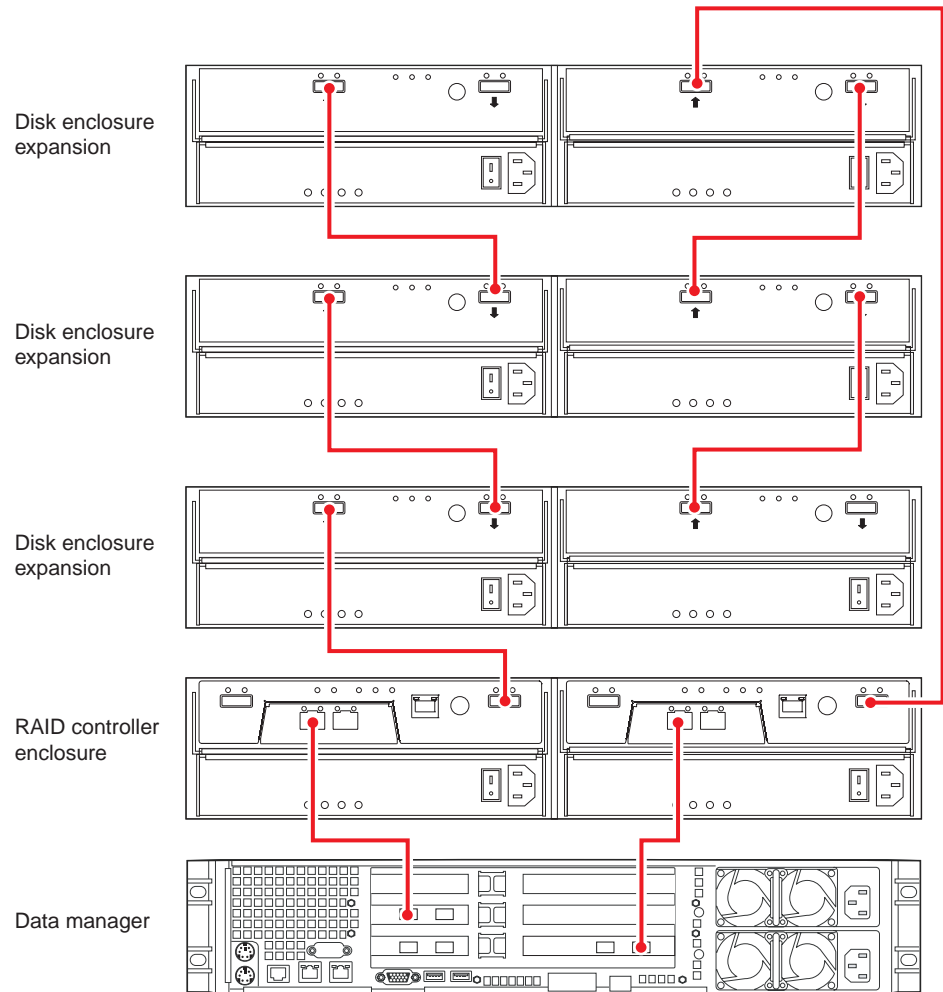

Figure 1-16 Data Manager, Dual-Controller RAID Enclosure and Three Disk Expansion Units
Use the following steps and Figure 1-16 to cable a data manager to a dual-controller RAID enclosure and three disk expansion enclosures.
1. Connect the Data Manager's first Fibre Channel PCI card port to the left-side RAID controller's host 1 port in the controller enclosure, see Figure 1-16.
6. Connect the right-side RAID controller's expansion connector (far right) to the first disk expansion enclosure's right-side input connector, see Figure 1-16.